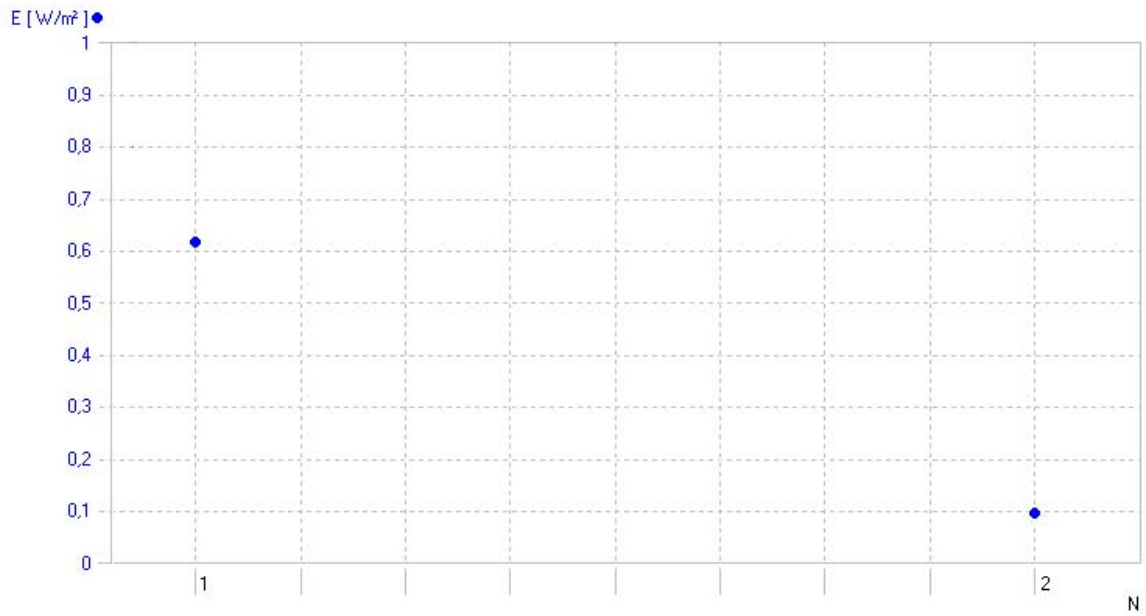

Fig. 3 Measurements as displayed on screen in 3B NET/ab™ (U11310) from above experiment
- Make a graph of the two measurements to show the effect of the lens (Fig. 3).